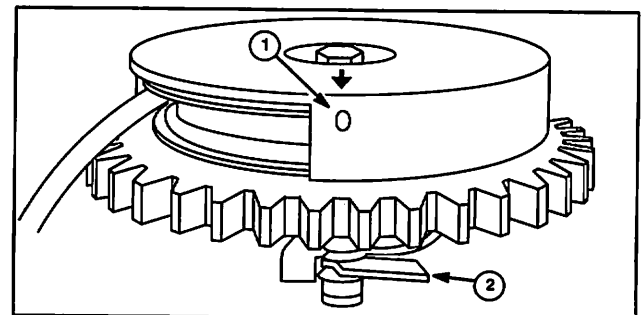

Fig. 31
13. Locate Cover (Starter Handle on Top): Turn cover clockwise until "O" or "Arrow" on cover (1) is in line with starter shaft cam (2), Fig. 31.